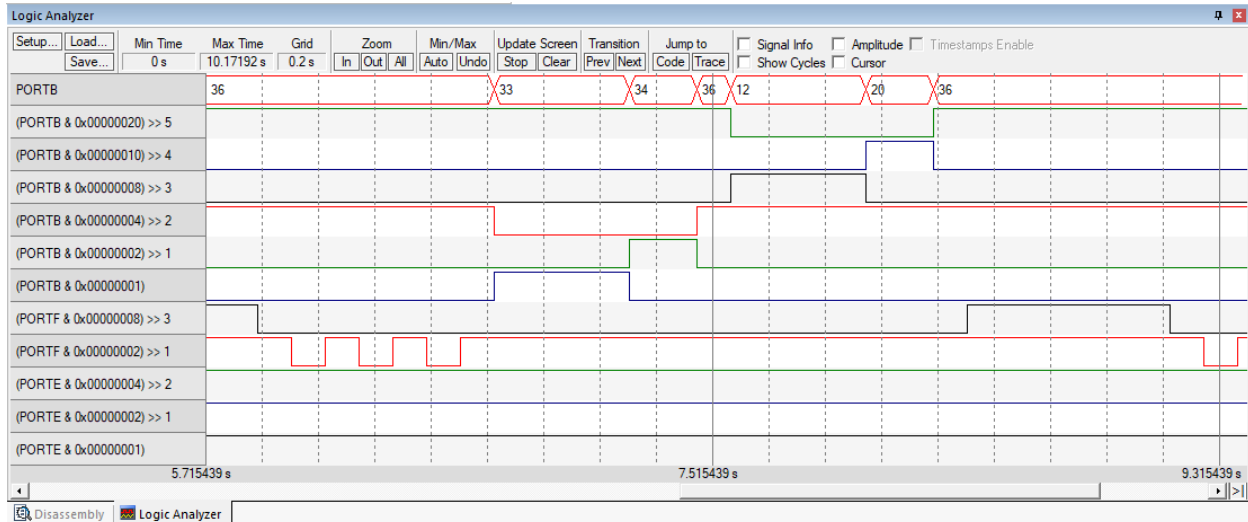

Figure 5.7. Simulation mode logic analyzer trace showing all states in one cycle.
3. Logic analyzer screenshot while in simulation mode, when all inputs are active, Figure 5.7.